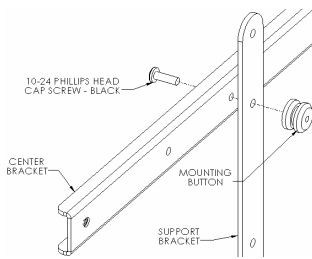
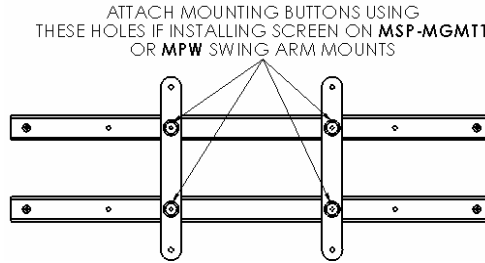
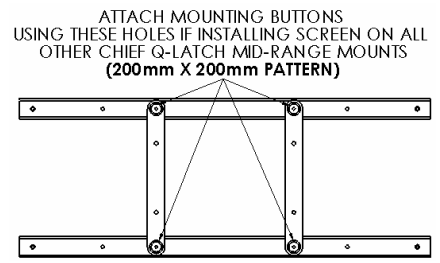

Figure 2
Figure 3a
Figure 3b
2. **Chief Q-latch Button Installation:** Using a black 10-24 philips head cap screw inserted from back side of bracket, secure support bracket and mounting button, with chamfered hole of mounting button (larger surface) facing support bracket, to center brackets (four places) (see Figure 2 & Figure 3a or Figure 3b).